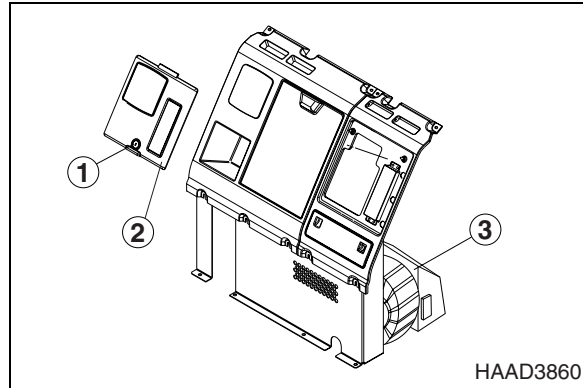

Figure 2
1. Turn the key cylinder (1, Figure 2) to open cover (2, Figure 2) behind the operator's seat.
3. Remove cover (2, Figure 2) from the rear box.
4. Remove filter cover (3, Figure 2) from the air conditioning unit.